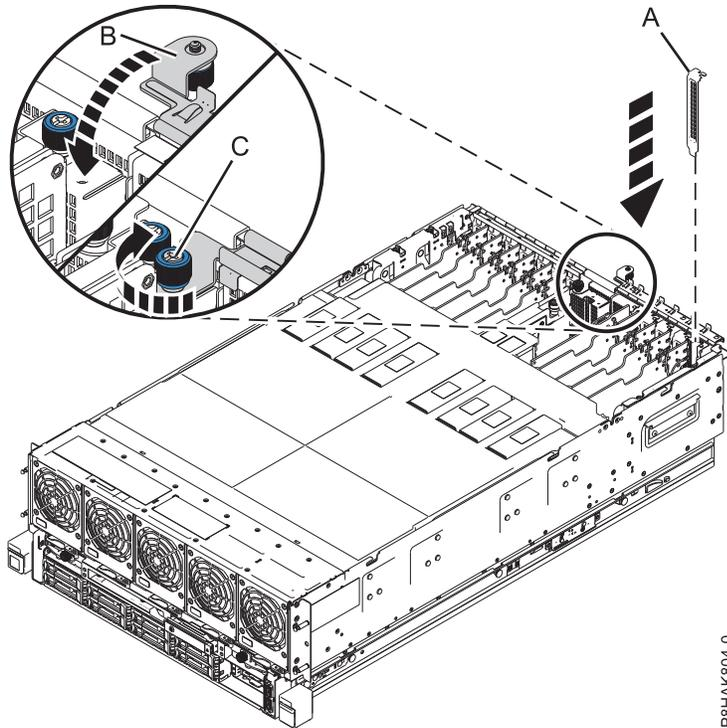

Figure 22. Installing a filler in a PCIe adapter slot in a 8408-44E or 8408-E8E system
- a. Carefully grasp the filler tailstock and align the filler with the slot and its connector on the system backplane, see (A) in Figure 22 on page 33.
- c. Close the I/O retention bracket by rotating it down towards the system (B). See Figure 22 on page 33.
- d. Screw the I/O retention bracket captive thumbscrew clockwise (C), as shown in Figure 22 on page 33.